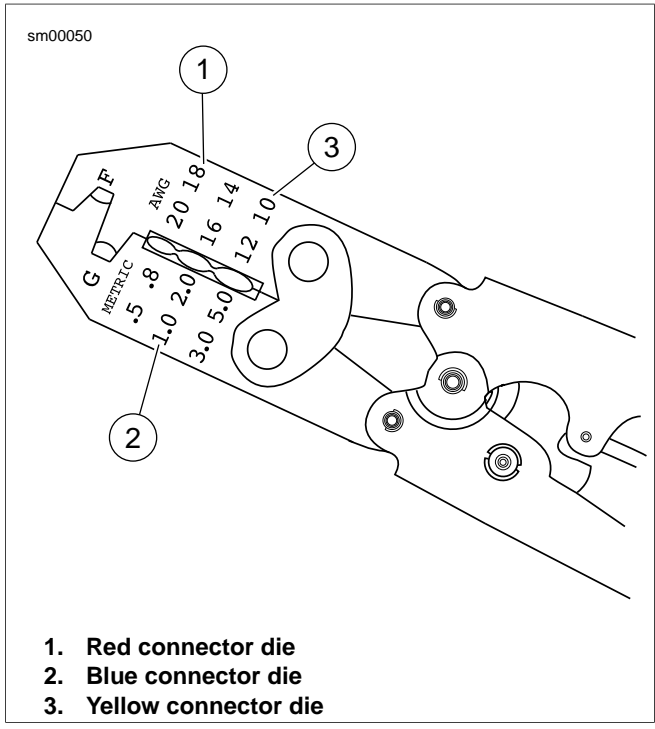

Figure A-52. Packard Crimping Tool (HD-38125-8)
- See Figure A-52. Open the PACKARD CRIMPING TOOL (Part No. HD-38125-8) ratchet by squeezing the handles closed.